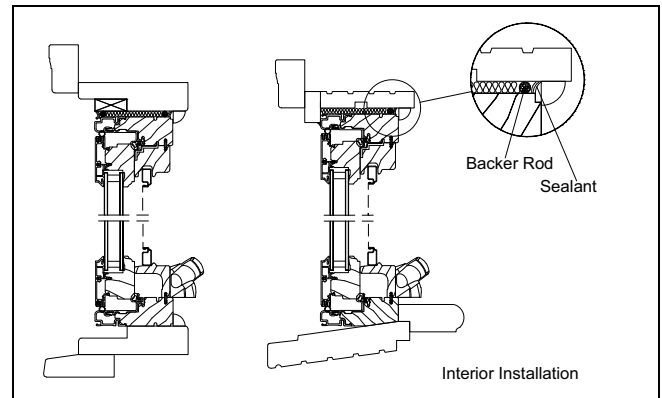

Figure 9
1. For **interior installed applications**, apply a backer rod and run a bead of sealant between the insert frame and existing frame around the entire interior perimeter. See figure 9. Replace interior sash stops or apply new trim as desired.